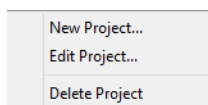

Figure 4-70: Projects Tab Menu with All Options Active
1. Right-click on a project to display the Tab menu (Figure 4-70).